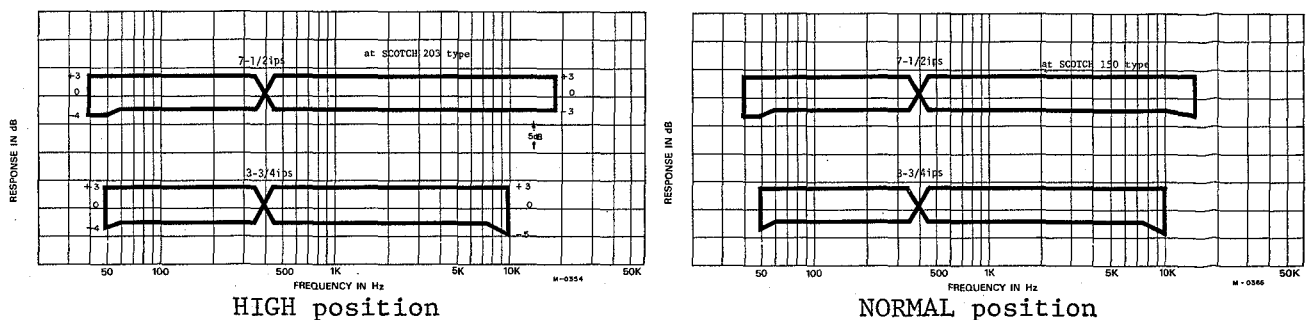

Fig. 7-9 Frequency Response limits -Record-
3. Adjust FRONT L-301/401, REAR L-701/801 for best response. (Fig.7-9).